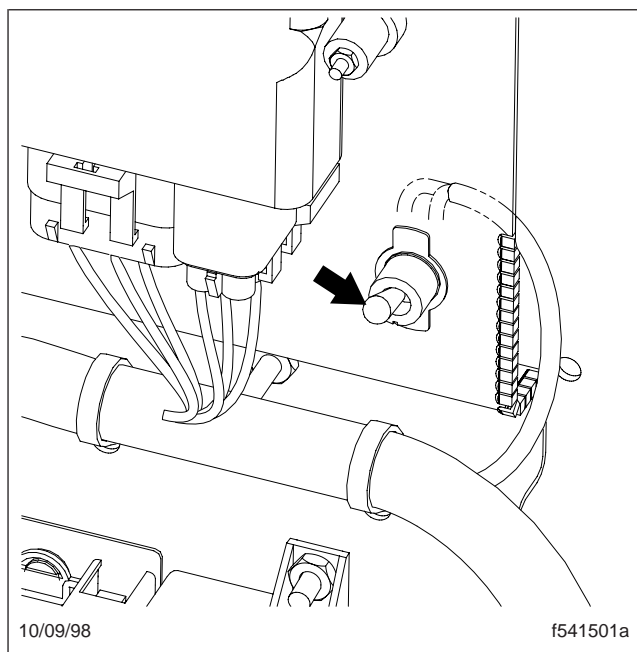

Fig. 3.11, Program Switch
- A program switch on the Meritor relay module that places the relay module in the learning mode, which is the only state in which the system can learn fob ID codes. The switch is shown in its normal, or OFF, state (toggle pointing up). See Fig. 3.11.
1. With the ignition keyswitch turned off, turn the program switch ON (flip the toggle DOWN). See Fig. 3.11.